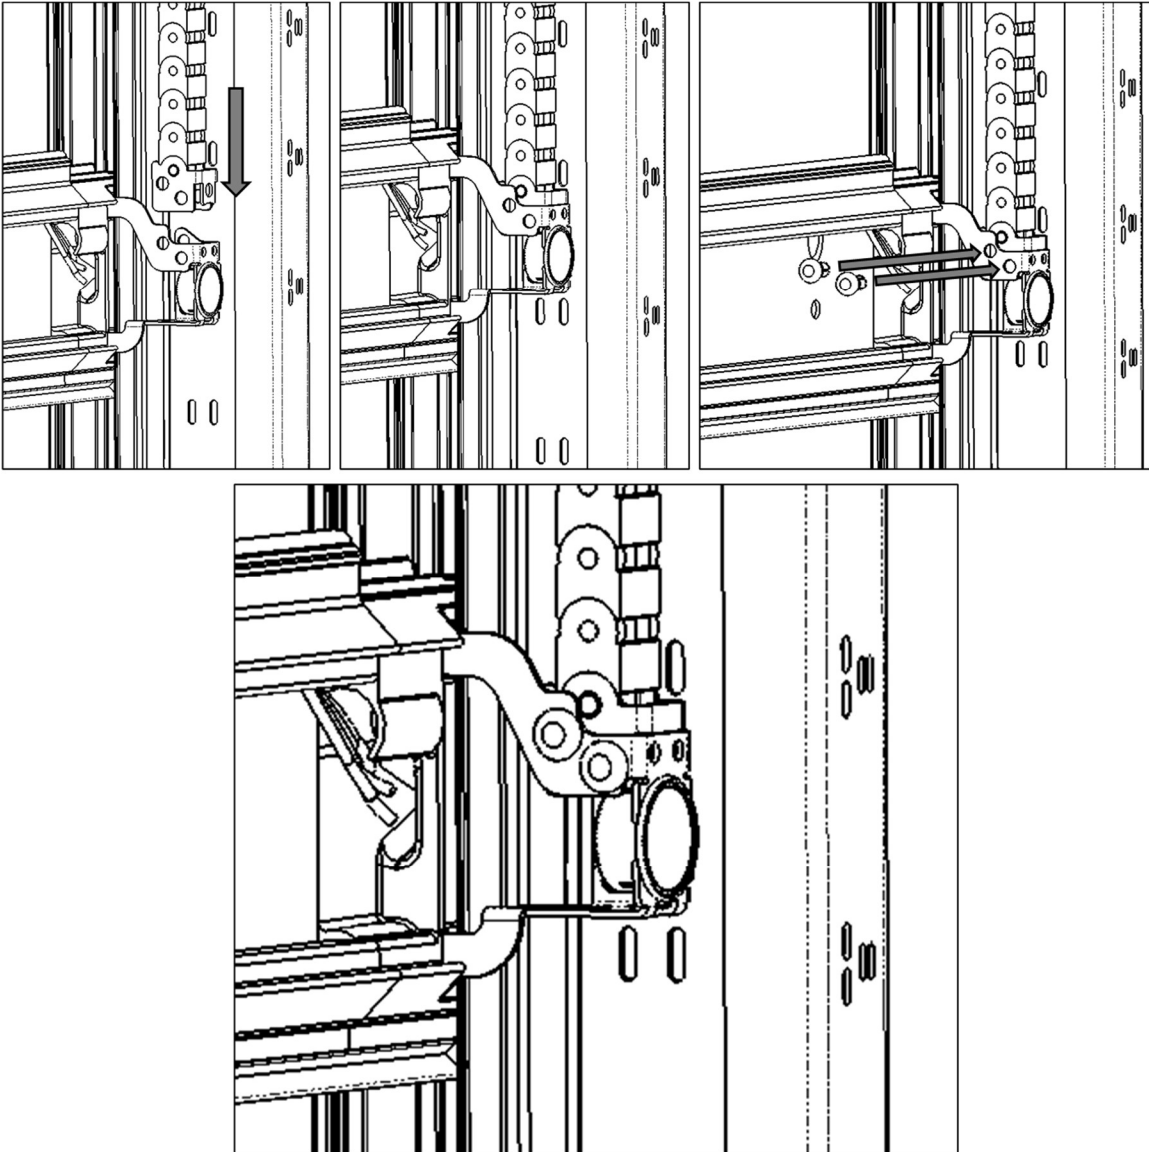

Figure 36 - Securing the cable chain mount to the chain bracket
5. Slide the cable chain mount into the top of the sensor bracket and secure in place with the 2 supplied fasteners. Refer to Figure 36.